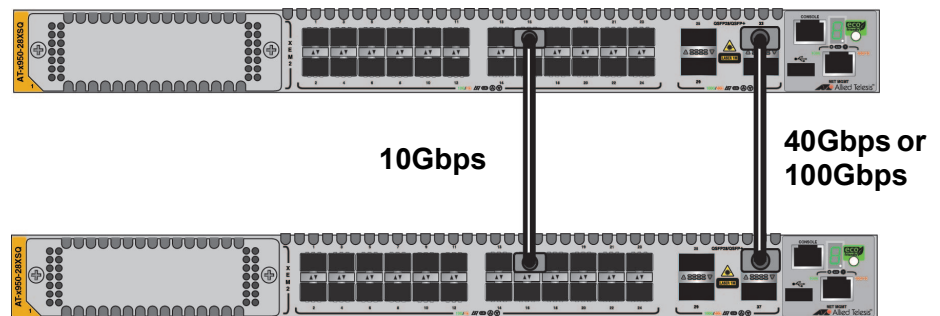

Figure 43. Unsupported Trunk with Different Port Speeds
- ❑ Trunk links must be the same speed. The example in Figure 43 is unsupported because the links are different speeds.